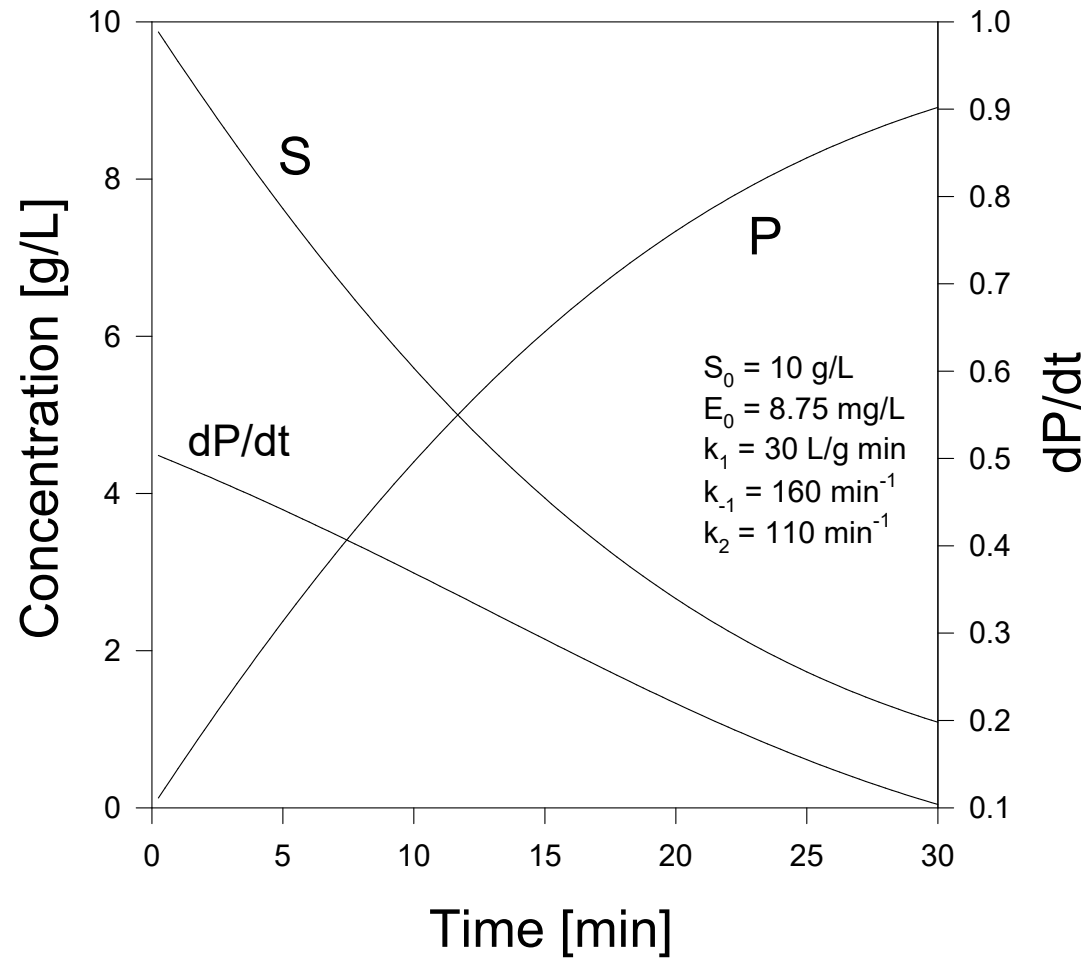

Figure 1b
- 3) dES/dt is not equal to zero (in very short time scale – Figure 1b – and in very large time scale – Figure 1c). Thus, strictly speaking, the quasi-steady state assumption of Briggs and Haldane is not valid.